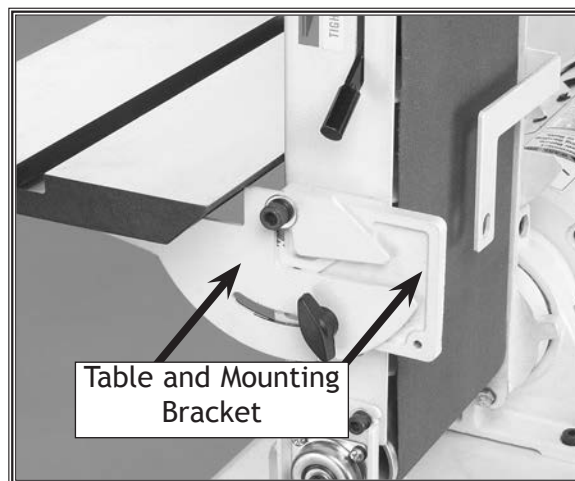

Figure 19. Table and mounting bracket.
3. Remove the table and mounting bracket from the belt sander (**Figure 19**).